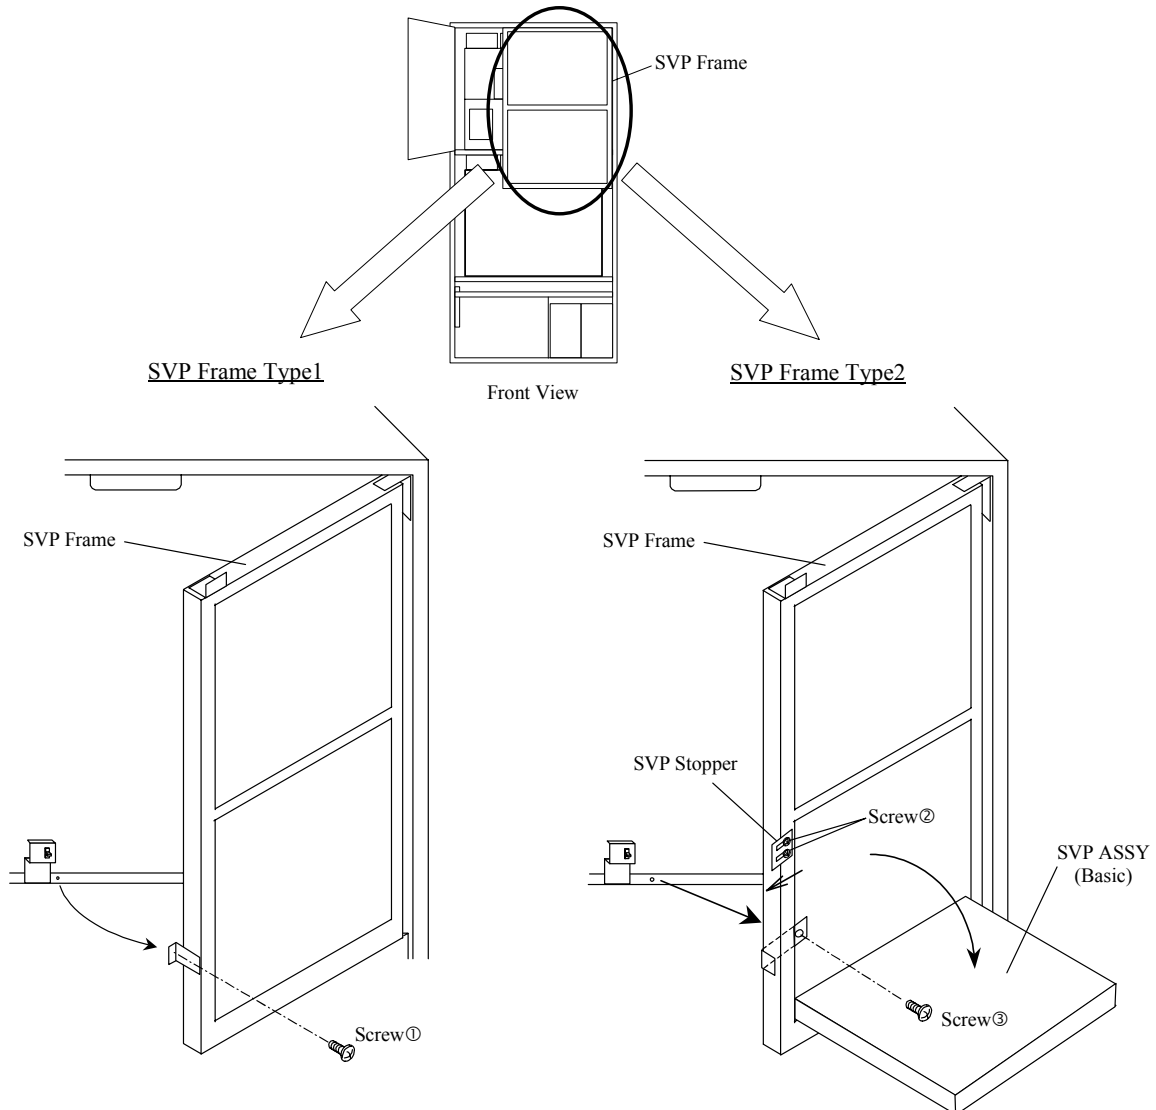

Fig. T7.1-1 Open the SVP Frame
- Attach the SH covers. (See Fig. T7.1-1.)
3. Loosen the screw and open the SVP frame. (See Fig. T7.1-1 [REP03-460].)